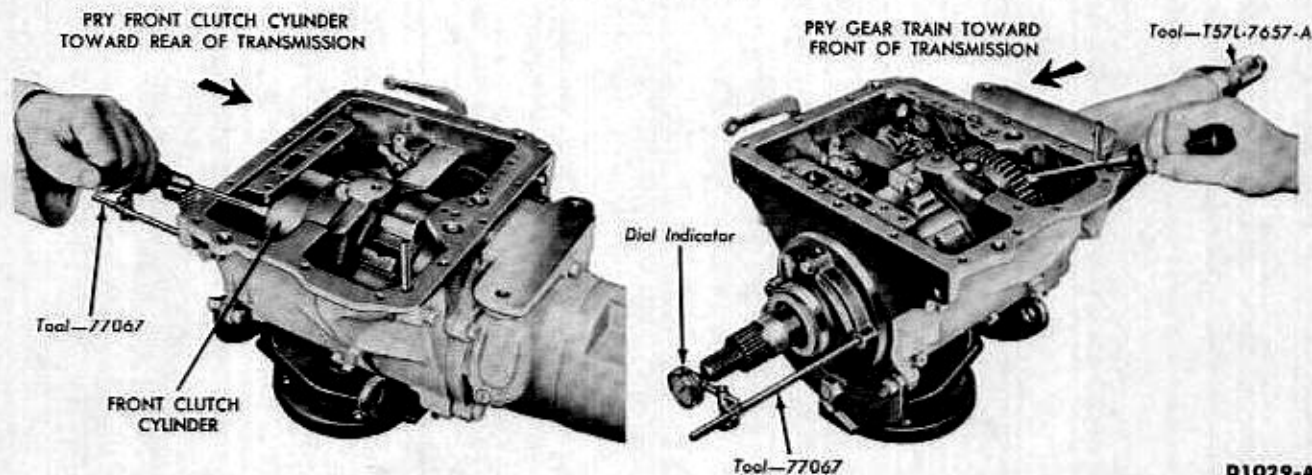

FIG. 2—Transmission End Play Check
2. Mount the dial indicator support tool in the front pump bolt hole. Mount a dial indicator on the support so that the contact rests on the end of the turbine shaft as shown in Fig. 2.
4. Pry the front clutch cylinder to the rear of the transmission with a large screwdriver (Fig. 2). Set the dial indicator to zero while maintaining a slight pressure on the screwdriver.
5. Remove the screwdriver and pry the units toward the front of the transmission by inserting the screwdriver between the large internal gear and the transmission case (Fig. 2).